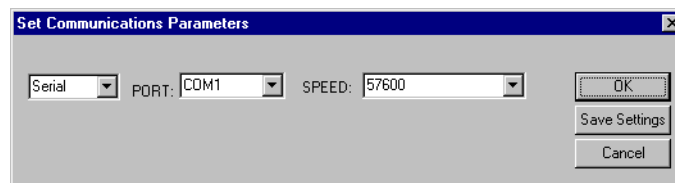

Figure A.4 Set Communications Parameters
1. Click **Change** in the *Flash Loader* window and the *Set Communications Parameters* window appears (Figure A.4).